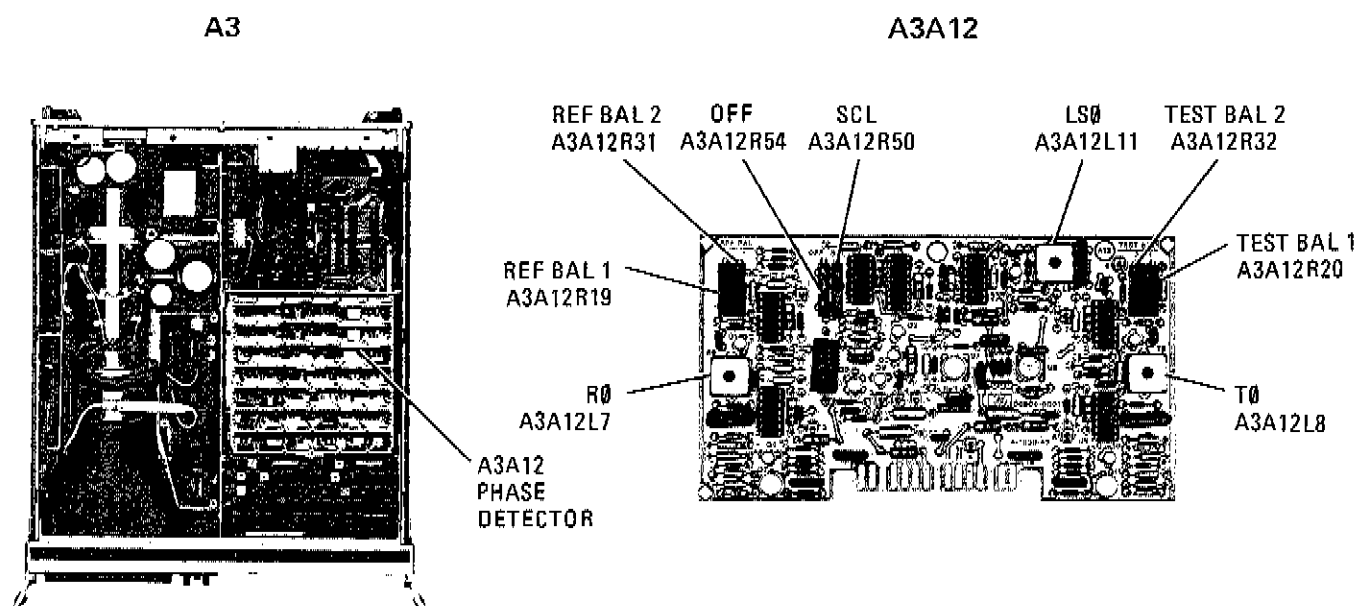

Figure A5-31. A3A12 Phase Detector Adjustments Location
- d. Connect the Spectrum Analyzer to A3A12TP2 using HP 1121A probe. Adjust "REF BAL 1" control A3A12R19 (Figure A5-31) to null the 200 kHz second harmonic signal.
- r. Indication on DVM should be  $+900 \text{ mV} \pm 1 \text{ mV}$ . If indication is out of tolerance, adjust "OFF" control A3A12R54 (Figure A5-31) for  $+900 \text{ mV} \pm 1 \text{ mV}$ .